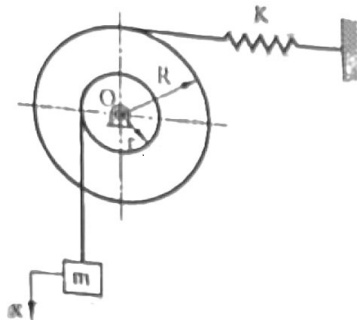

Figure 1
- (c) Find the natural frequency of the system as shown in figure 1 **07**